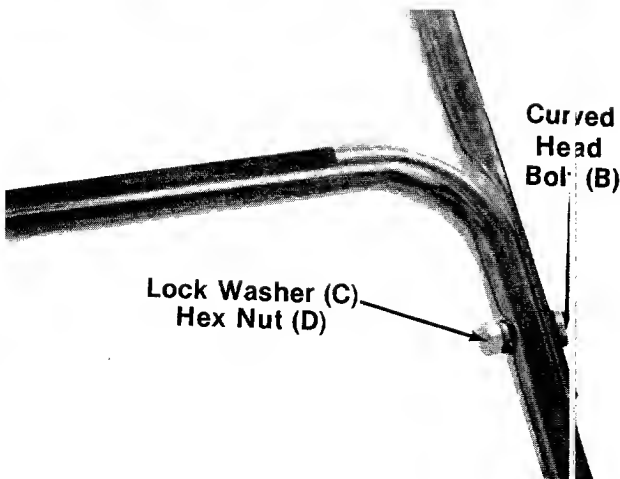

FIGURE 3.
4. Place the upper handle in position over the lower handle. The control housing must be on the left hand side of the handle. Secure the left hand side of upper handle using the curved head bolt (B), lock washer (C) and hex nut (D) as shown in figure 3.